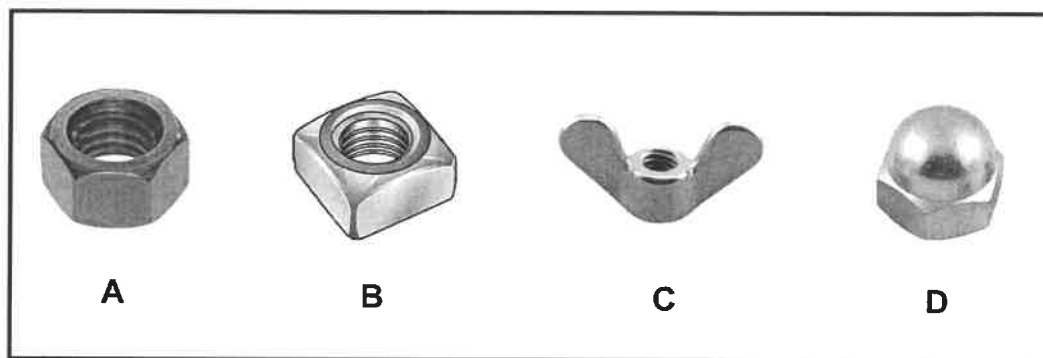

FIGURE 1.7
- 1.7 FIGURE 1.7 below shows joining fixtures.